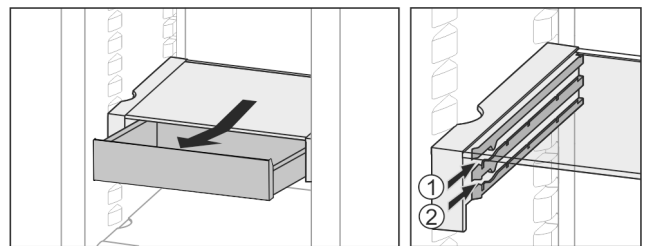

Fig. 27
- Slide back at the height you want Fig. 27 (1) or Fig. 27 (2).